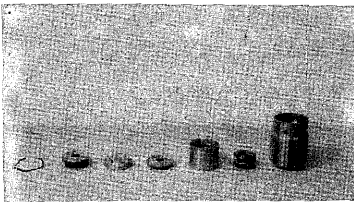

Fig. 7
- 1) Carefully clean all parts of bottom bearing assembly 148 to 153 (Fig. 7).